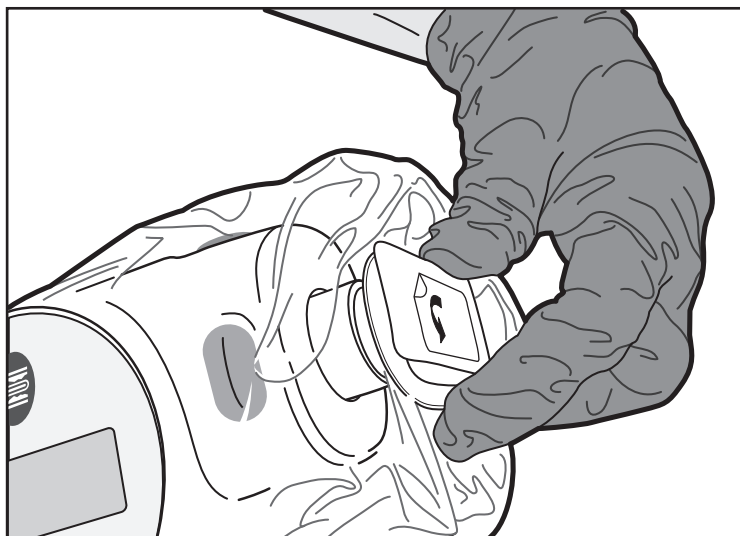
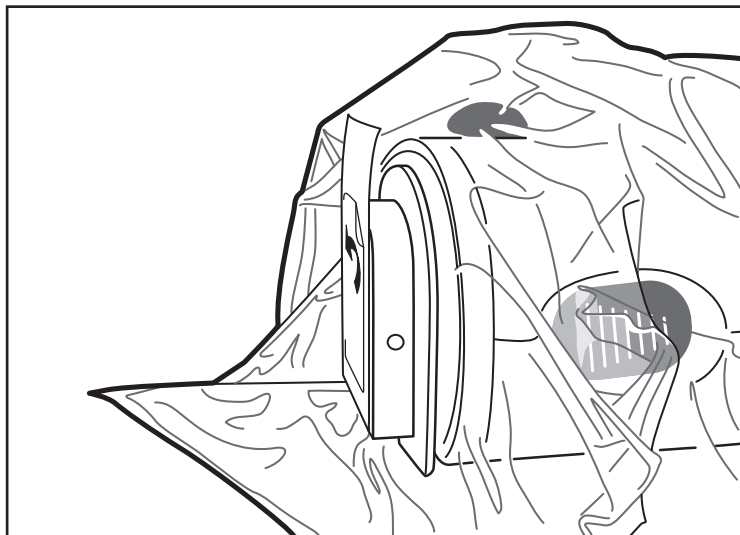

Figure 7. Attaching the Faceplate
Figure 8. Attached Faceplate
8. To attach the bag to the MDU5 PLUS Motordrive Unit, the sterile operator should align the bag's faceplate with the nose of the MDU5 PLUS Motordrive Unit (Figure 7), and gently push to secure the connection. Do not trap material between the faceplate and the nose. Extra bag material around and beyond the connection is normal (Figure 8).